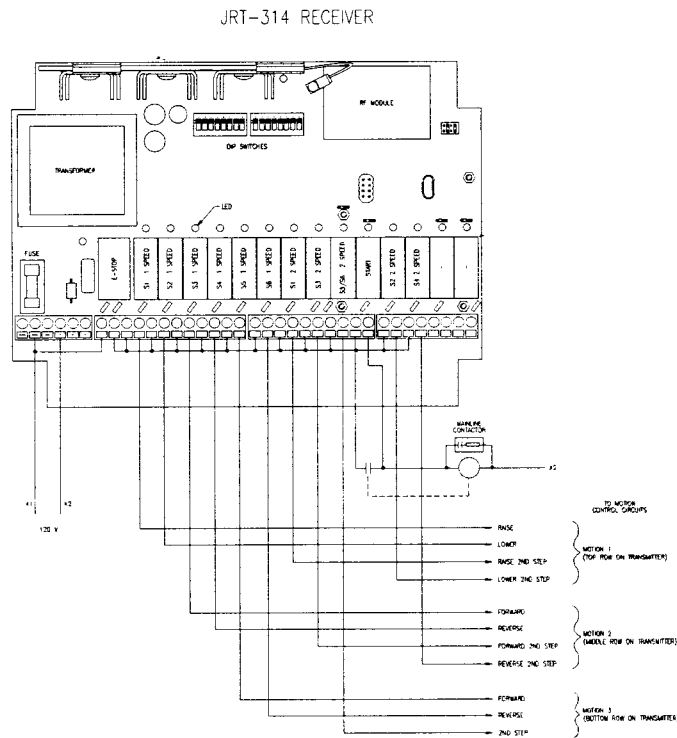
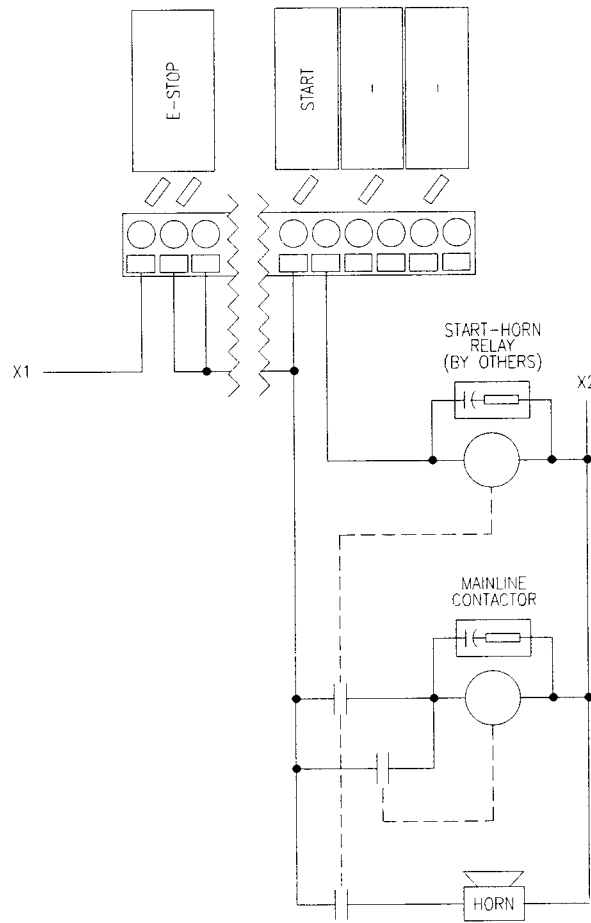

Figure 2.5: PulseStar•Jr. Receiver Circuit Board
Figure 2.8
NOTE: *Figure 2.5: PulseStar•jr. Receiver Circuit Board shows how to wire the receiver board for a two-speed application. For single-speed applications, wire only the FORWARD and REVERSE terminals for each motion.*
4. If you are connecting the PulseStar•jr. receiver to a horn, refer to Figure 2.5: PulseStar•jr. Receiver Circuit Board on the previous page and then refer to Figure 2.8.
5. Connect the output wires to the terminal blocks as shown in Figures 2.5 and 2.8: PulseStar•jr. Receiver Circuit Board.